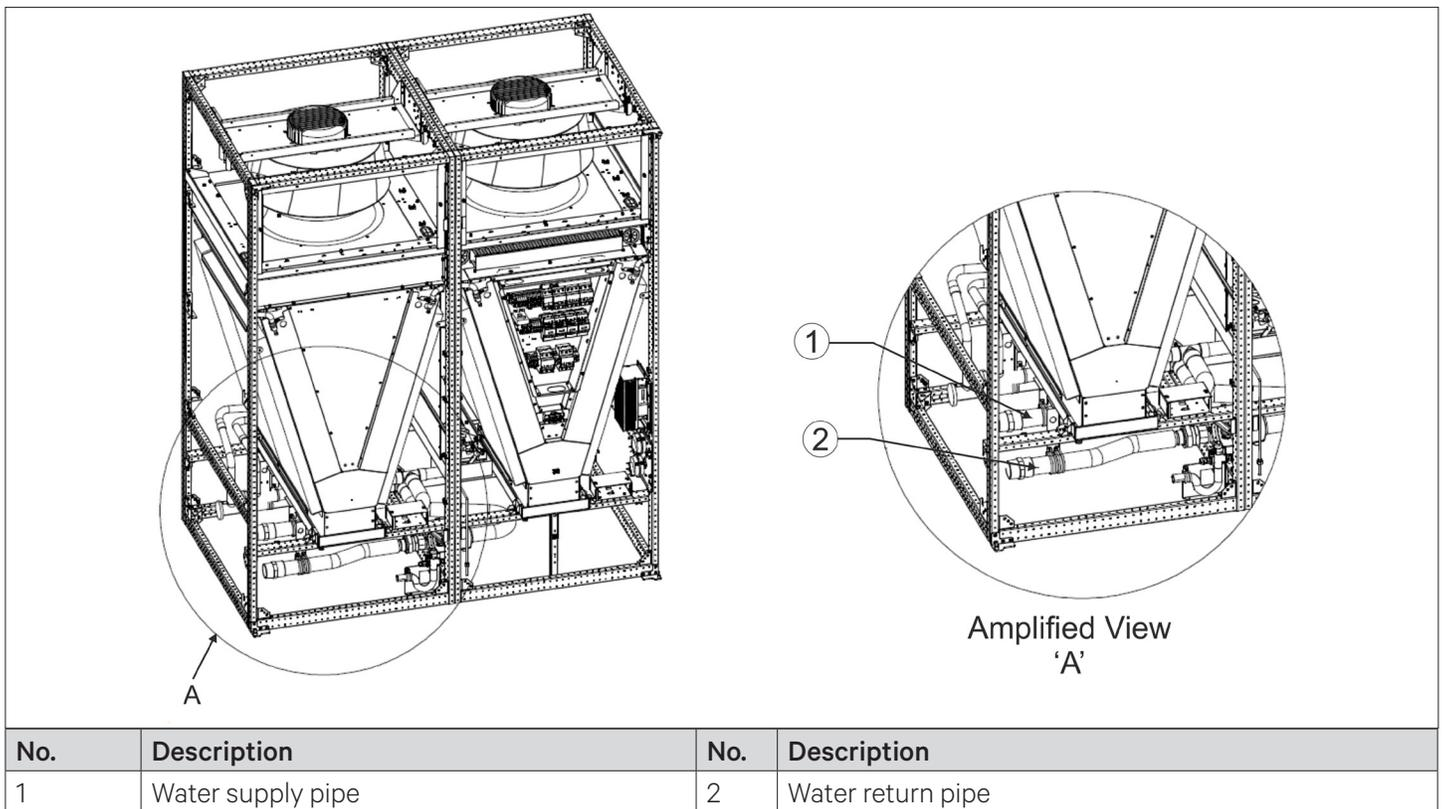

Figure 2-24 Connection of Chilled Water Supply and Return Pipes (upflow units)
- The chilled water supply and return pipes are connected with the Air Handling Unit (AHU) by threaded connector (optional flanges or copper brazing mode), as shown in Figure 2-24 and Figure 2-25. The supply and return pipes should be brazed according to the labels on the unit. Do not reverse the connection. Chilled water supply and return pipes can be connected through the base pallet or the side panel. The chilled water supply pipes should be equipped with the water filter with over 60 meshes to facilitate the clearance of impurities in the pipes.